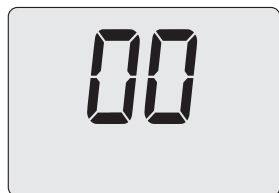

Figure 7.5
- Press 16 (Figure 7.2) to show the value of parameter P06 on the LCD display (Figure 7.5).